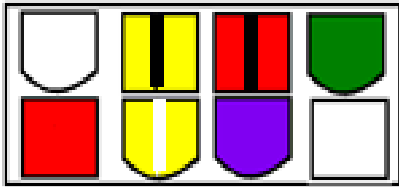

**Figure 38.12**
38.12. Disconnect the molded 8-pin plug from the RMC module. See Figure 38.12.